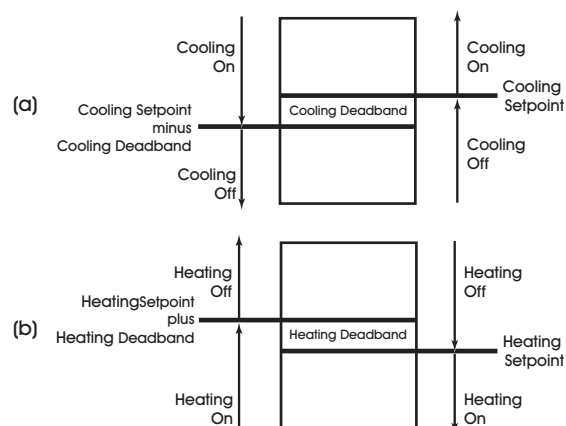

Figure 7-14: Deadband for a Normal Acting (a) and Reverse Acting (b) Thermostatic Control Loop
The **(DB) Desired Control DeadBand** property specifies a control deadband for the thermostatic control loop. For a normal action control, this specifies the amount by which the temperature must drop below the cooling setpoint before the output is de-energized (**SP-DB**). For a reverse action control, this specifies the amount by which the temperature must rise above the heating setpoint before the output is de-energized (**SP+DB**). This response is illustrated in Figure 7-14.